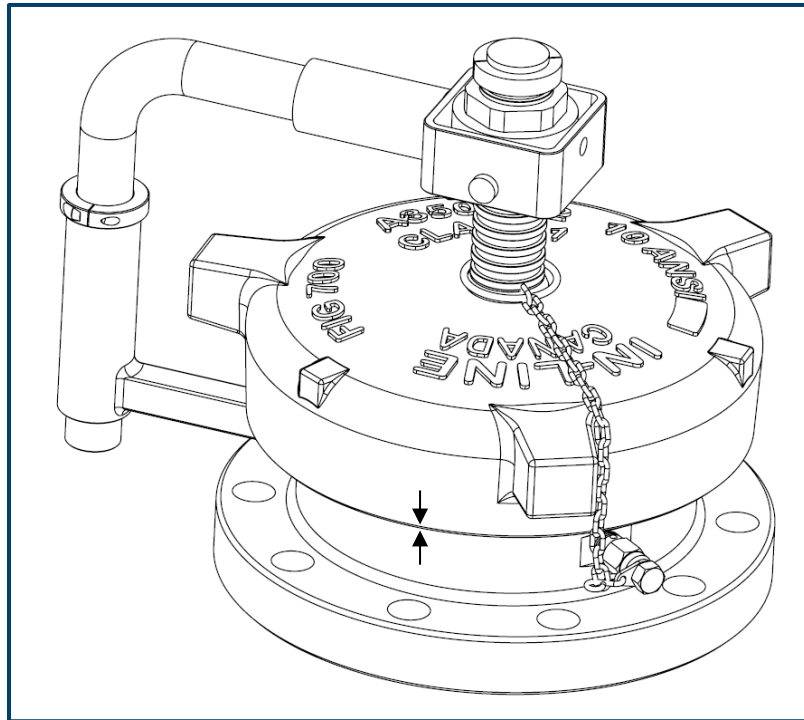

Figure 5: Entry Cap Make-Up Arrows
13. Install the entry cap and tighten with the entry cap lug wrench until metal-to-metal contact is made as indicated by alignment of the make-up arrows (see Figure 5).
13. Install the entry cap and tighten the entry cap until metal-to-metal contact is made as indicated by alignment of the make-up arrows (see Figure 5).